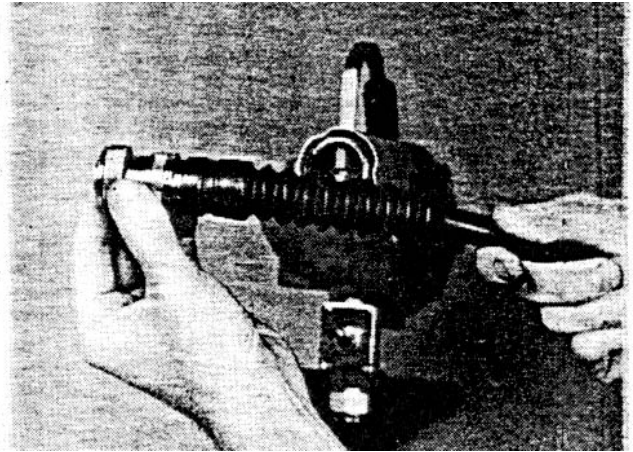
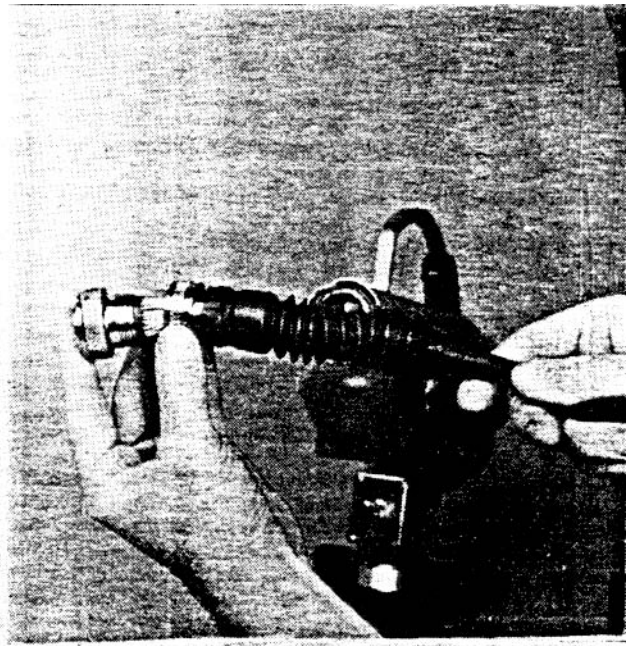

Figure 3. Heating Convoluted Boot
Figure 4. Heating & Retracting Convoluteds Boots
a. Heat the convoluted boot (Figure 3) with heat gun until warm to the touch, then pull the loosened adapter away from the connector exposing the wire conductors that are entering the connector. Hold in retracted position until cool and boot remains retracted (Figures 4 and 5).